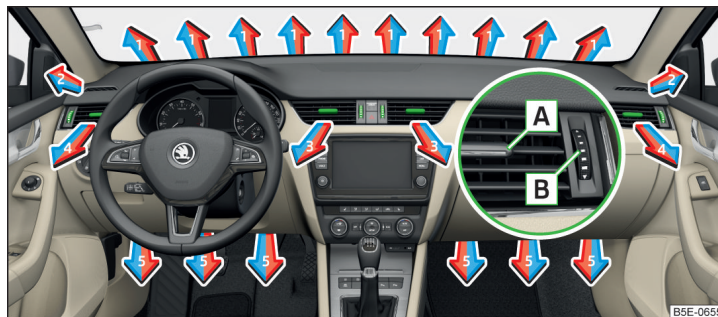
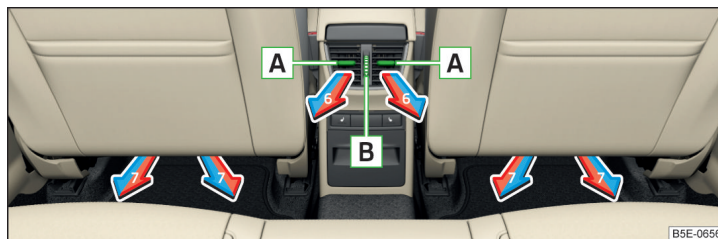

Fig. 137 Air vents at the front
Fig. 138 Air vents at the rear
» Fig. 137 and **6** » Fig. 138, and the vents can be opened and closed individually. ►
The setting of the airflow direction is carried out by moving the adjustment element **A** » Fig. 137 or » Fig. 138 in the desired direction.
- To **open**, turn the controller **B** » Fig. 137 or » Fig. 138 upwards.
- To **close**, turn the controller **B** » Fig. 137 or » Fig. 138 downwards.
Set the direction of the air outlet	Air vents » Fig. 137 and » Fig. 138